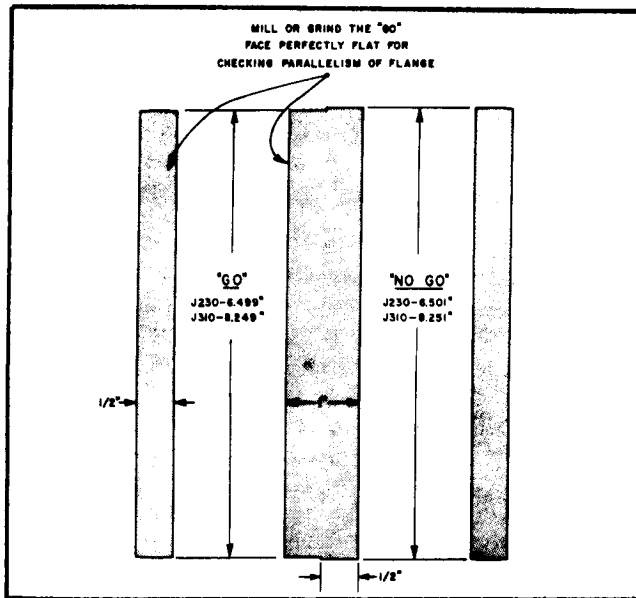

Fig. 2-Go-No Go Gage
7. Check ID of ridge around driving face of flange. A fabricated gauge, such as the one illustrated in Fig. 2 is recommended, both for checking flange ID and checking parallelism. If the ID measurement of the flange does not fall within the allowable limits, replace the flange.